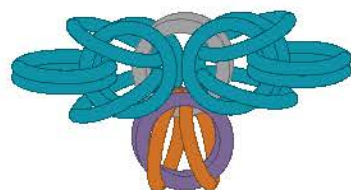

FIG. 4
4. Fold back the 2 (purple) jump rings just added (**FIG. 4**).